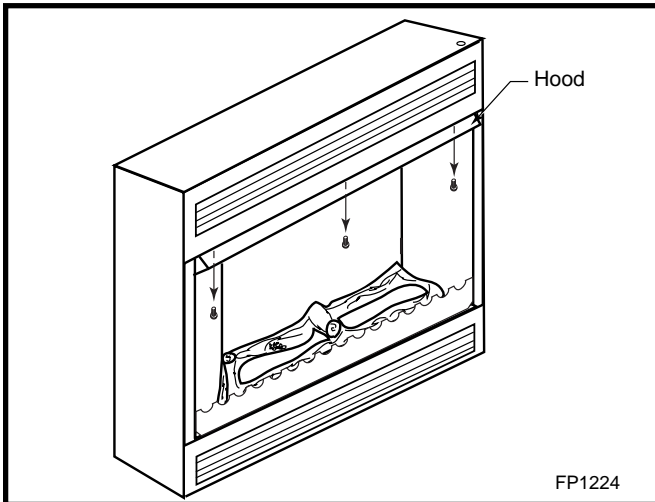

Fig. 3 Remove hood.
2. Remove the three (3) retaining screws that secure the hood to the unit. (Fig. 3)